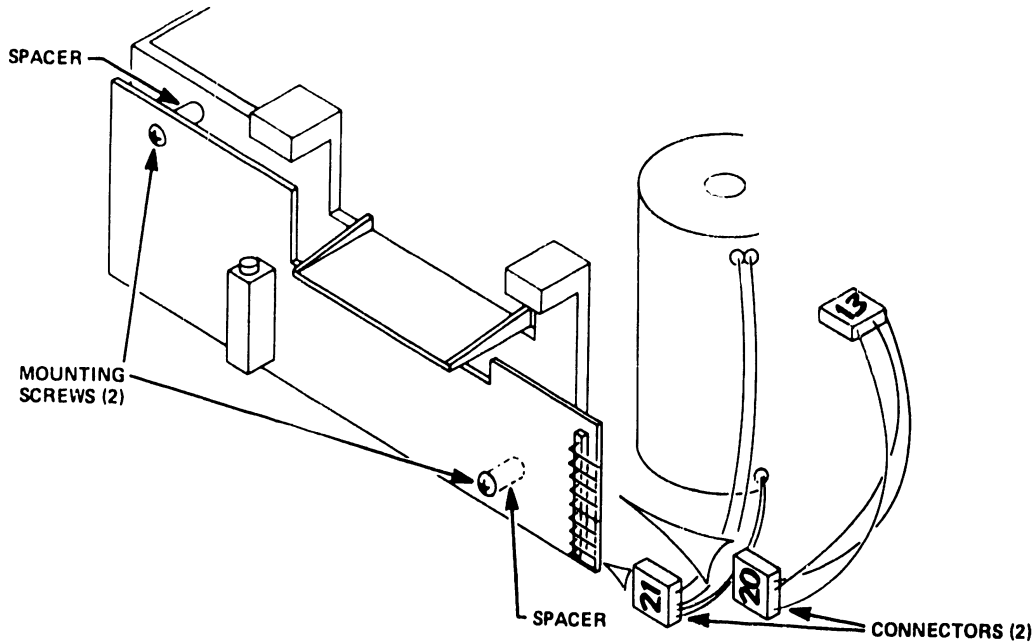

Figure 5-3
5.3.1 drive. Detach connectors P20 and P21 from the Servo PCBA (see Figure 5-3), located at the back of the disk
- 5.3.8 Plug Connectors P20 and P21 into their proper slots on the Servo PCBA — P20 on the top and P21 on the bottom — see Figure 5-3.